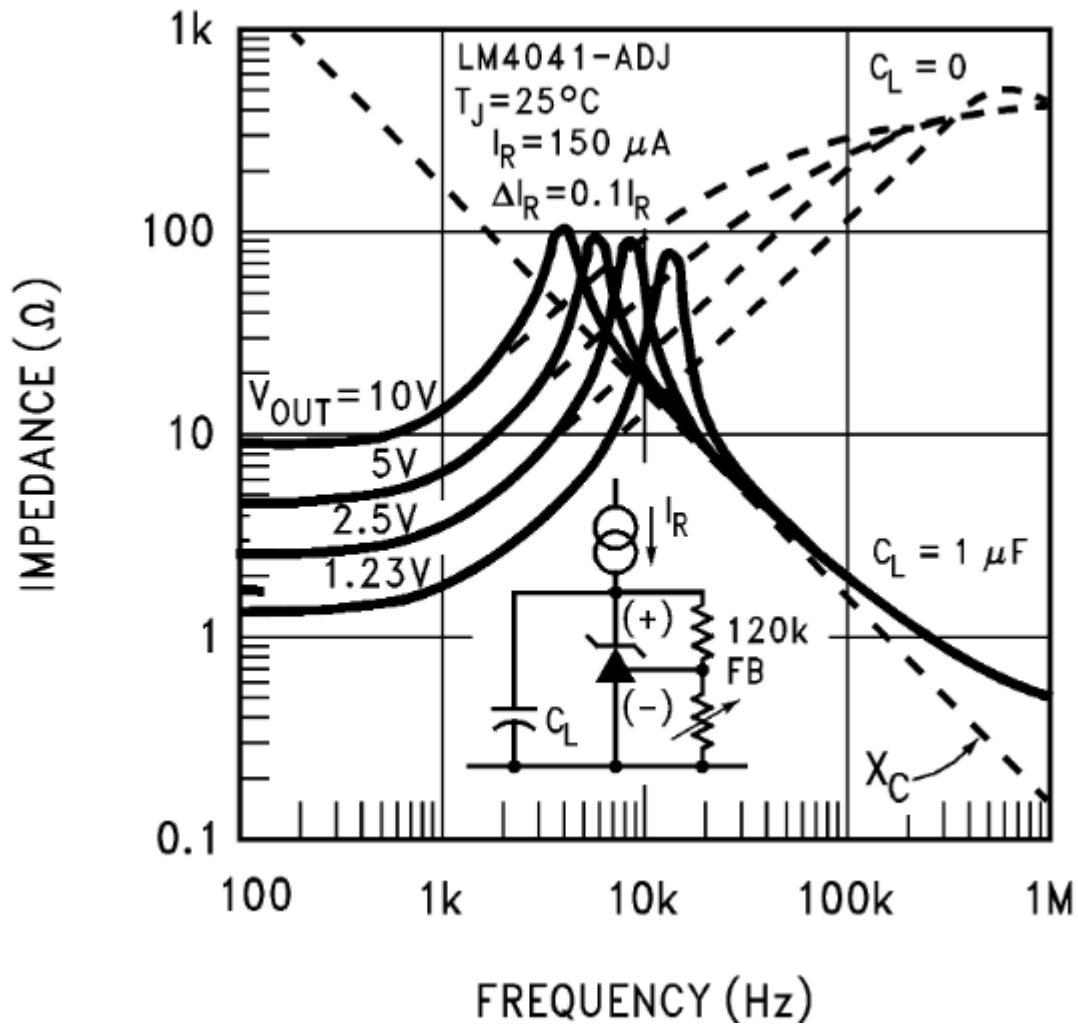

Fig. 5. The specified output impedance for an LM4040 shunt voltage reference from Texas Instruments.
A small current step applied to a voltage reference with an output capacitor will produce ringing as a result of the peak in the reference's output impedance as demonstrated in Fig. 5. The two measurements shown here were taken using a Rohde & Schwarz RTO1044 digital oscilloscope with spectrum analysis mode. As with the previous measurement, the Picotest J2111 current injector is used here, in this case to generate a high-speed load step.^[2]
Fig. 5. A small current step applied to a voltage reference with an output capacitor will produce ringing as a result of the peak in the reference's output impedance. On channel 1, this ringing is measured at two different current levels with higher amplitude peaks seen in the measurement on the left and lower amplitude peaks produced in the measurement on the right.
Some voltage reference datasheets include an output impedance graph showing the impedance for various output capacitors. Fig. 5 is from the National (TI) datasheet for the LM4040 voltage reference. While the capacitor ESR is not stated it appears to be approximately 500 mΩ.